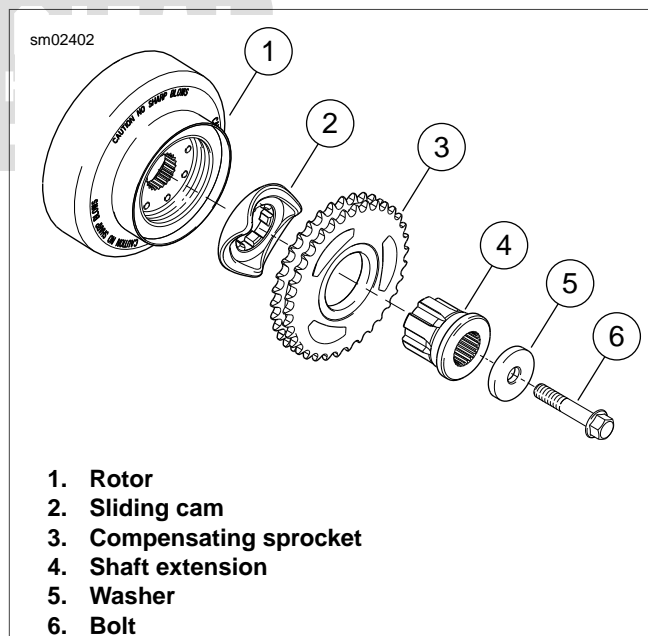

Figure 5-10. Compensating Sprocket
1. See Figure 5-10. Apply a thin layer of primary chaincase oil to the inner diameter of the compensating sprocket (3) and the splines of shaft extension (4). Assemble shaft extension, compensating sprocket and sliding cam (2). Place primary chain over compensating sprocket assembly.
3. Install **new** bolt (6) and washer (5) hand tight.